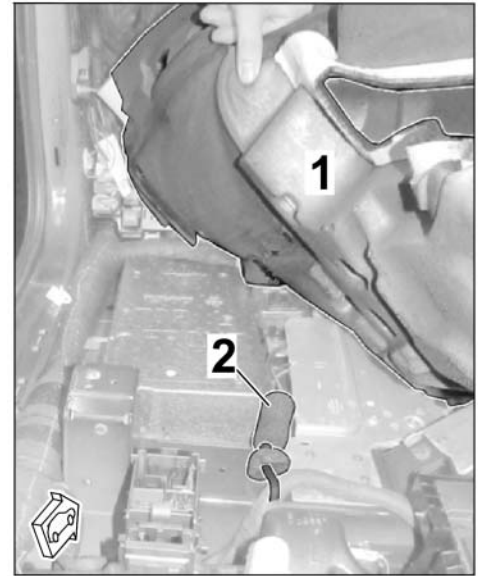

Figure 21
- 2.3.4 Loosen left front floor covering and fold it up as far as possible (⇒ Figure 21). ⇒ *Workshop Manual '704119 Removing and installing front floor covering'*